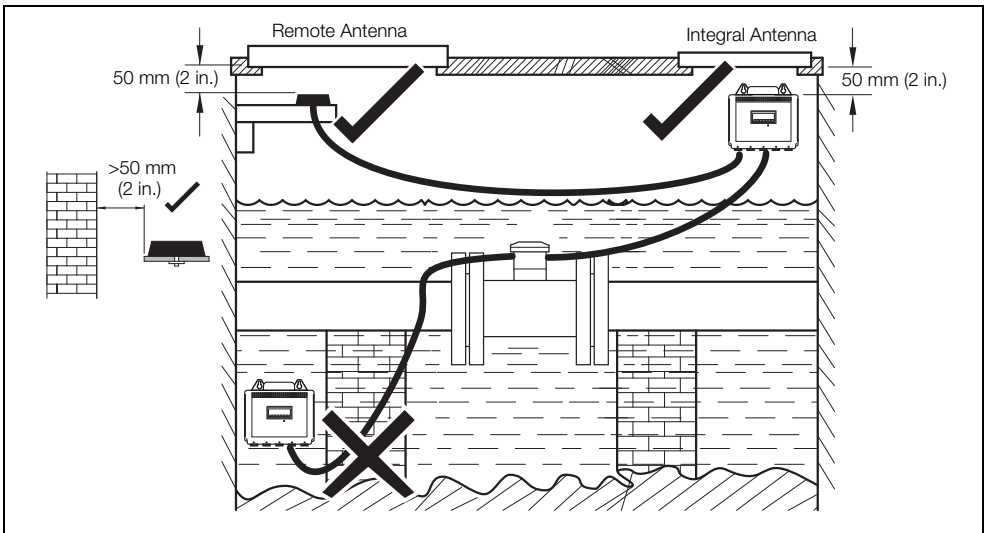

Fig. 6.2 GSM Antenna Installation
- see Fig. 6.2
- Ensure the antenna does not become submerged under water – see Fig. 6.2.
- Do not mount the antenna closer than 50 mm (2 in.) to any solid wall or surface – see Fig. 6.2.